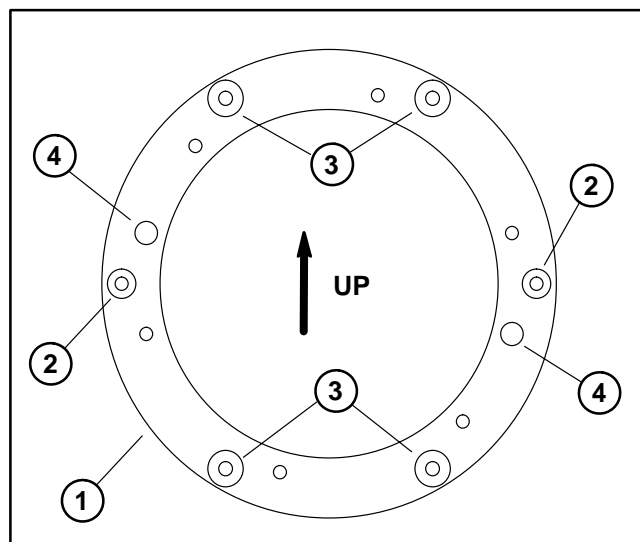

Figure 17
1. Position coupling spacer to engine and align mounting holes. Use two shoulder bolts and lockwashers in the positions shown in Figure 17 to secure the spacer to the half threaded holes in engine flywheel. Torque shoulder bolts from 17 to 21 ft-lb (23 to 28 N-m).
3. Place dowels in locating holes of coupling spacer (Fig. 17).